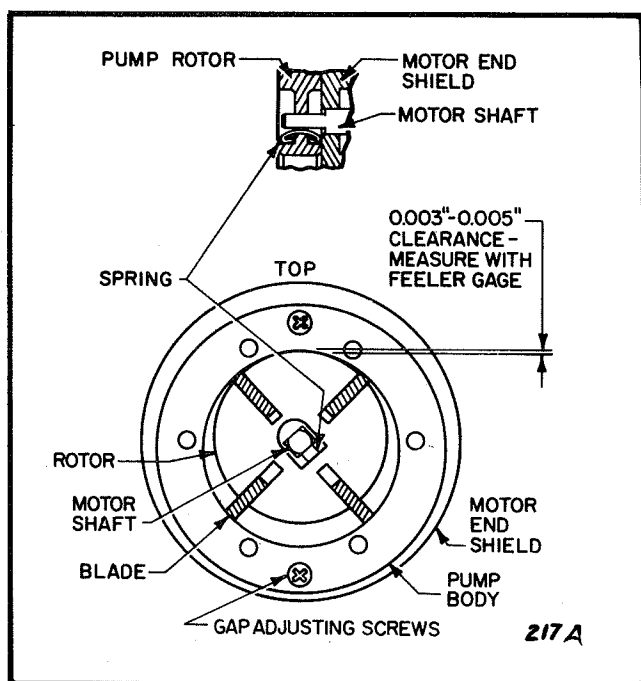

Figure 9. Checking Clearance of Air Pump Rotor
a. Install the spring in the pump rotor as shown in Figure 9, then assemble the rotor on the motor shaft. Attach the pump body to the motor with the two top and bottom recessed screws which were removed to take it off.
b. Adjust the pump body to provide 0.003 to 0.005 inch clearance at the point shown in Figure 9. Measure the clearance with a feeler gage. Spin the motor by hand to be sure the rotor does not rub on the pump body. The proper clearance must be maintained. Be sure the screws are tight after adjusting the clearance.